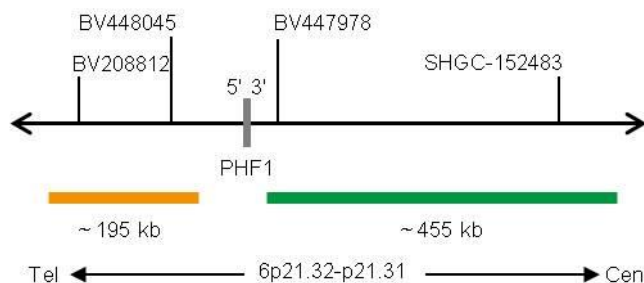

Fig. 1: SPEC PHF1 Probe map (not to scale)
- ZyGreen (excitation 503 nm/emission 528 nm) labeled polynucleotides (~10 ng/μl), which target sequences mapping in 6p21.31-p21.32\* (chr6:33,406,580-33,863,564) proximal to the PHF1 breakpoint region (see Fig. 1).
- ZyOrange (excitation 547 nm/emission 572 nm) labeled polynucleotides (~4.5 ng/μl), which target sequences mapping in 6p21.32\* (chr6:33,121,529-33,317,357) distal to the PHF1 breakpoint region (see Fig. 1).